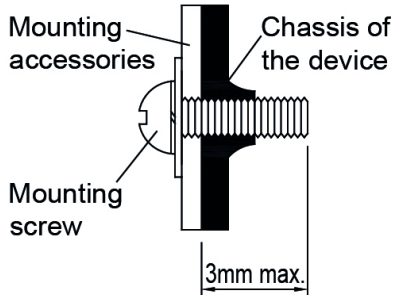

Fig. 4 Mounting Screw
- **For PMT and PML Series (Refer to Fig. 4):** Only use M3 screw ≤ 3 mm (0.12 inch) through the base mounting holes. This is to keep a safe distance between the screw and internal components. Recommended mounting tightening torque: 4~7Kgf.cm (3.47~6.08 lbf.in).